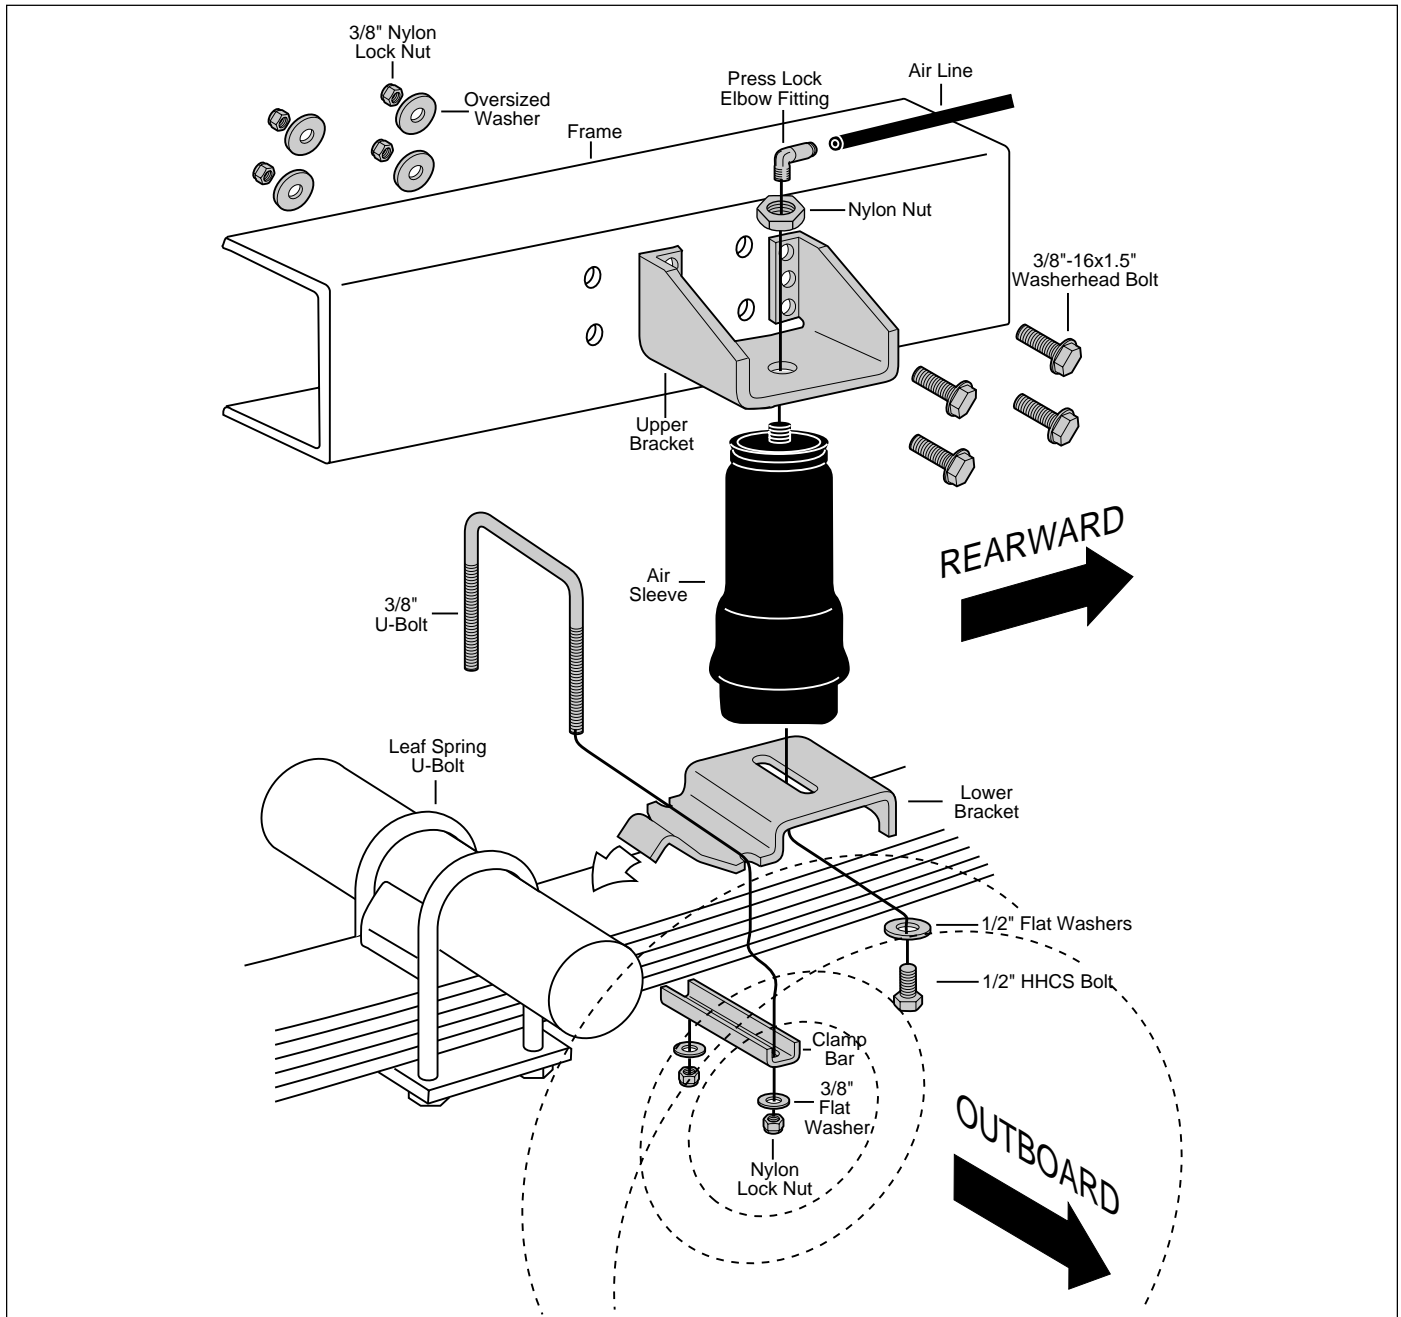
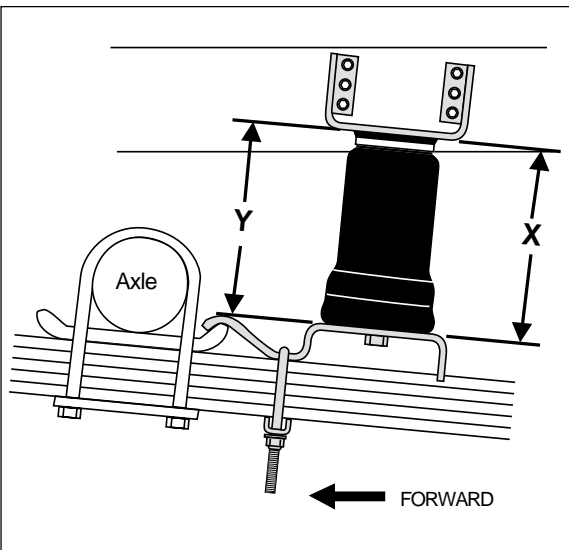

Figure 1
Figure 4
2. Using the slot in the lower bracket, push the upper bracket against the frame rail. Use the nuts on the threaded portion of the installation tool to adjust the upper bracket so that the flanges of the upper bracket are flat against the frame rail and four mounting holes are on the flat middle section of the frame rail. The mounting holes must be at least 3/4" from the rounded edges of the frame rail. The brackets can be mounted anywhere within the threaded range of the installation tool (Figure 1).
- Using the bracket as a template, mark four holes on each side of the bracket to be drilled. The X and Y dimensions (Figure 4) should be equal. The sleeve should be mounted so that it follows the natural arc of the suspension through its full travel (Figure 1 & 4). Remove the upper bracket and installation tool and drill the four $\frac{3}{8}$ " holes.
- Orient the fitting so that it faces in the direction of the intended air line route. Install the upper bracket onto the frame rail using the short $\frac{3}{8}$ " washer head frame bolts, large flat washers, and nylon locknuts provided in the kit. Tighten 20 ft-lbs. (Figure 1).